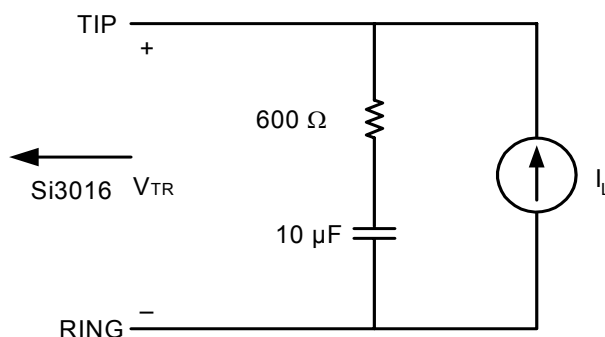

Figure 1. Test Circuit for Loop Characteristics
($T_A = 0$ to 70 °C for K-Grade and -40 to 85 °C for B-Grade, See Figure 1)
1. Measured at TIP and RING with 600 Ω termination at 1 kHz, as shown in Figure 1.